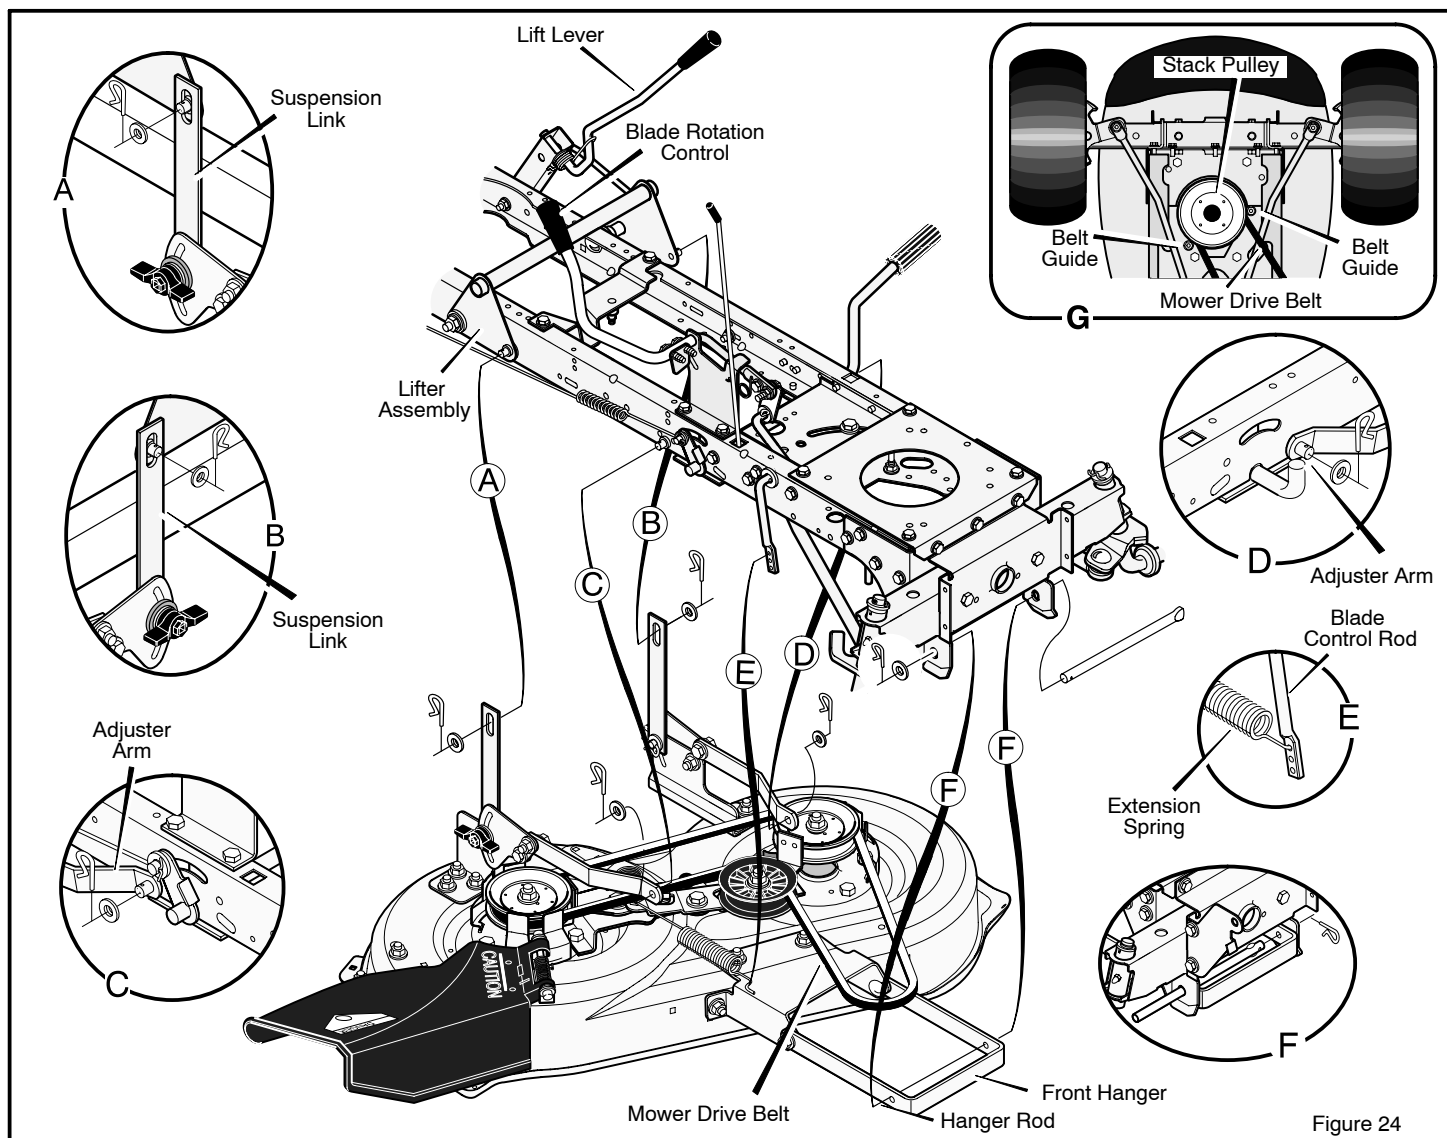

Figure 24
3. Remove the hair pins and the washers from the **adjuster arms** (Figure 24). See illustrations "C" and "D".